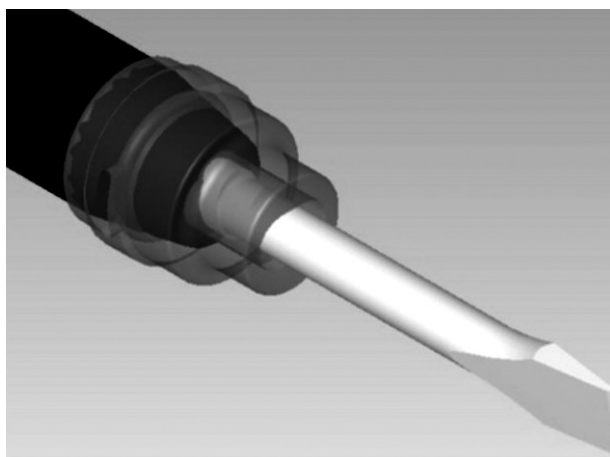

Fig. 4
6. Align the chisel shank to the hole on the hammer's Cylinder (18) and attach the Chisel and Retaining Sleeve to the hammer body as shown. (See Fig. 4.)
7. There is an O-Ring (9) inside the channel about half way down. The chisel may stop here. Apply a little more force to push the chisel past the O-ring, and into the channel.